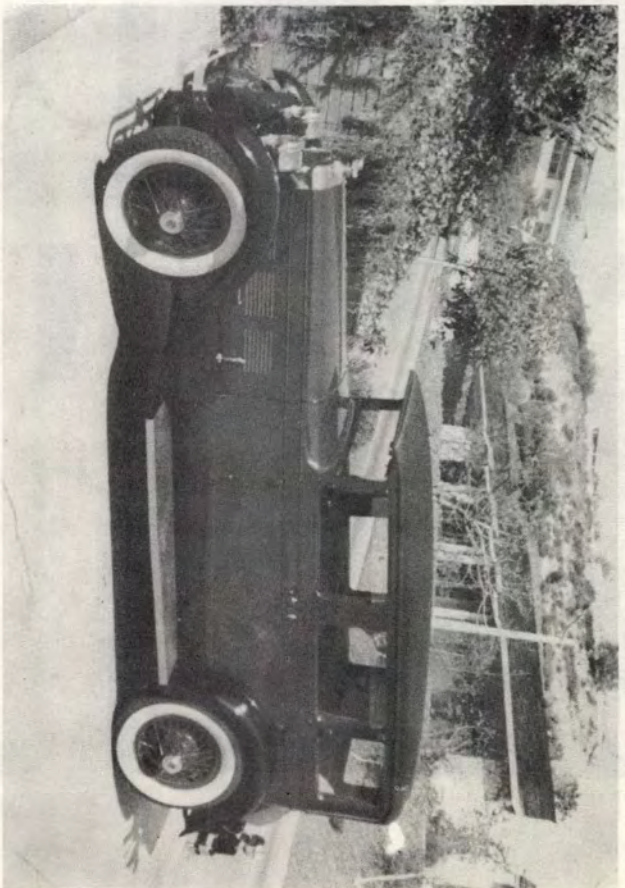

Fig. 2
- Fig. 2 Maxwell Sapp 1927 4-Door Sedan